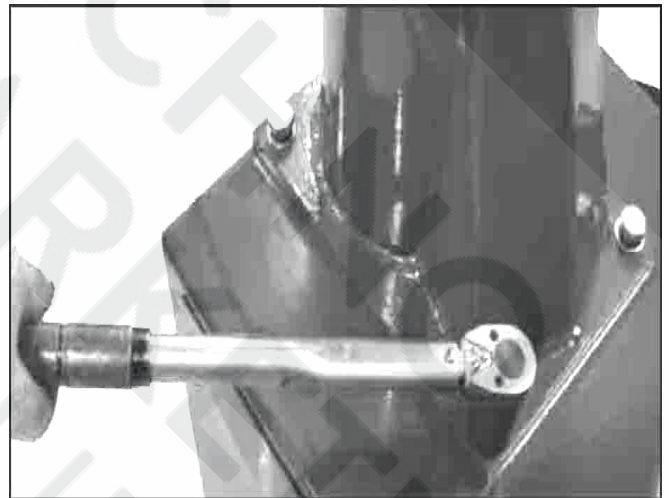

FIG5
3.2.1 After un-package the package carton, take out accessory boxes (FIG 4-1), bead breaking arm (FIG 4-3) and column assembly (FIG 4-2). And position and fix according to the FIG5. Remove the bolt, elastic washer and plate washer on the body (FIG 4-4).
3.2.2 Place the column on the body. The direction of the warning label is forwards. Make the holes on the column base plate align to thread holes on the body. Once again assemble the removed the bolt, elastic washer and plate washer removed in 3.2.1 The torque is 70 N·M (FIG5) Use torsion wrench to tight